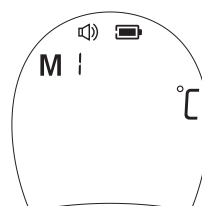

Figure 10
- With the thermometer off, press the *Memory Button/Age Button* to enter memory mode, the letter M will appear in the upper left corner of the display. (See Figure 10)